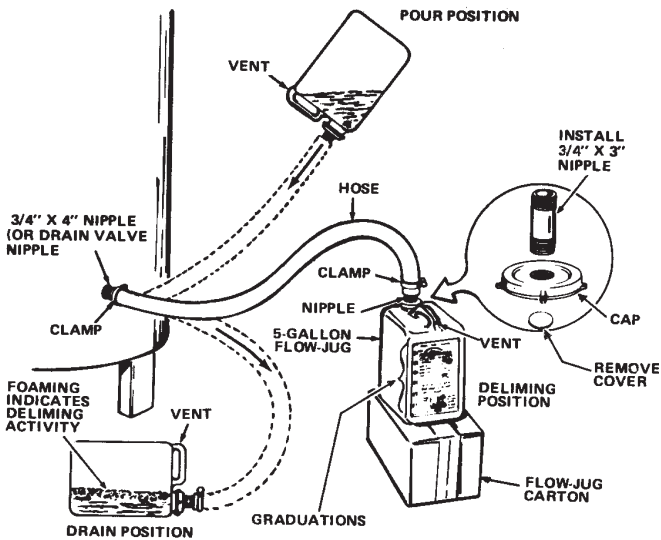

FIGURE 9
- Lift container to the "Pour" Position, see Figure 9, being careful to keep the vent in the handle above the liquid level and pour the UN•LIME into the heater.
- Let UN•LIME remain in the heater for 5 minutes and then lower the container to the "Drain" Position, see Figure 9.